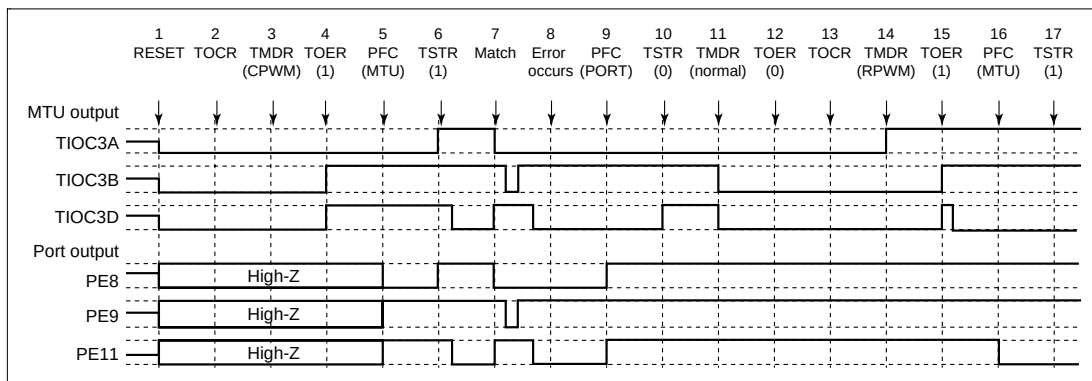

**Figure 12.120 Error Occurrence in Complementary PWM Mode,
(24) Operation when Error Occurs during Complementary PWM Mode Operation, and Operation is Restarted in Reset-Synchronous PWM Mode: Figure 12.120 shows an explanatory diagram of the case where an error occurs in complementary PWM mode and operation is restarted in reset-synchronous PWM mode.